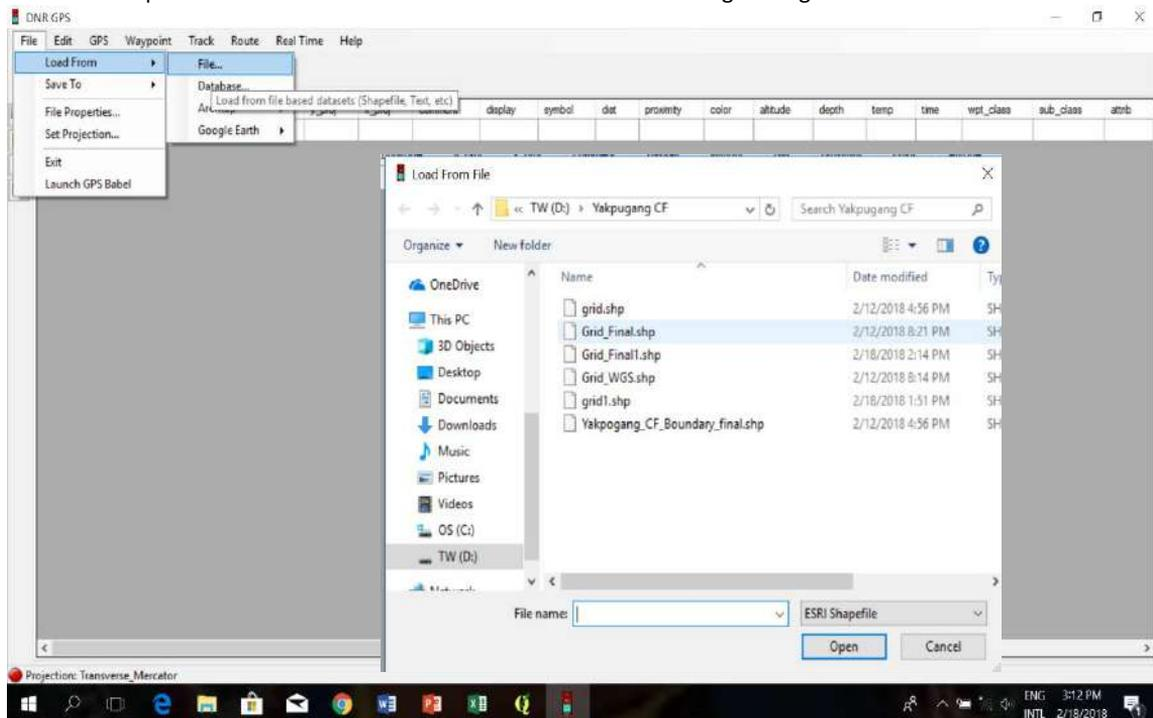

Figure 10g
- Upload the Grid CF Final in the DNR GPS as shown in the Figure 10g below.